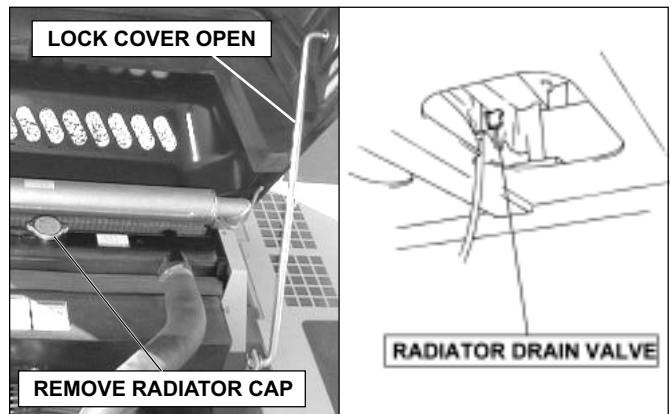

FIGURE 4.47A
2. Raise the engine hood and make sure to lock it open. See Figure 4.47A. Place a rag or paper towel on the radiator cap and slowly open it to release any pressure.
4. Locate the lower cover beneath the radiator. See Figure 4.47A. Remove bolts and cover to obtain access to the radiator drain hose. Place an empty container, with sufficient capacity for engine system coolant, below the radiator drain hose. Refer to page 4-10 for proper system capacity. Turn valve counter clock wise to open drain.